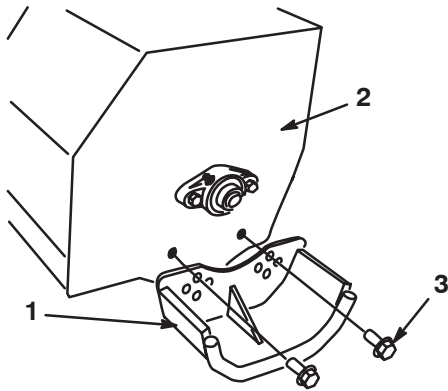

Figure 4
2. Remove the bolts that secure the skids to the housing (Fig. 4).
3. Position the skids equally on both sides and secure them with the bolts (Fig. 4).